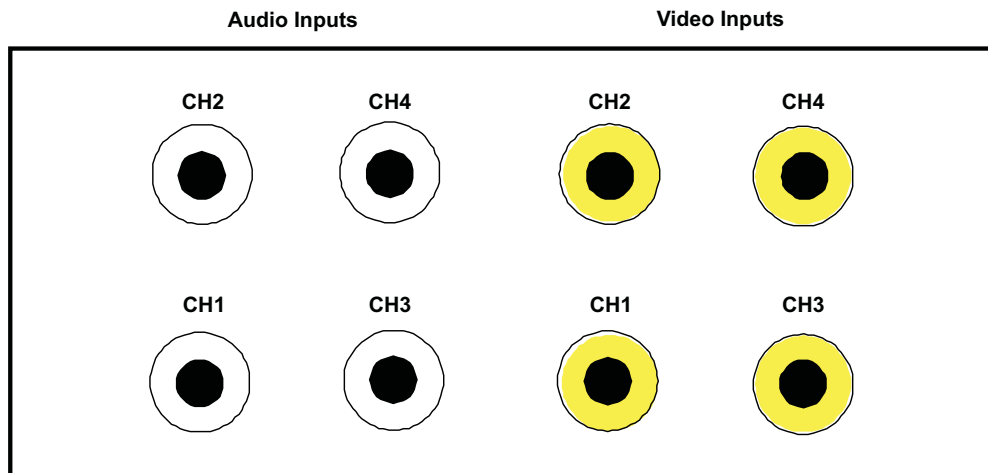

Figure 3. Location of TVP5158EVM Video/Audio Inputs
1. Analog video sources to TVP5158EVM composite video inputs (see Figure 3)
2. Analog audio sources to TVP5158EVM audio line inputs (see Figure 3)